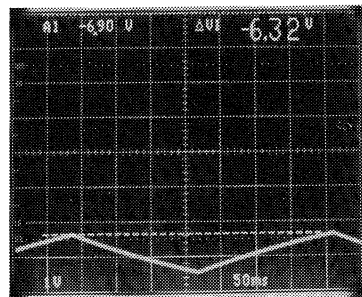

Figure 3-22.
8. CHECK—Signals at test points TP V3 and TP F4, see Figures 3-22 and 3-25 in the "Test Signals" part of this section.